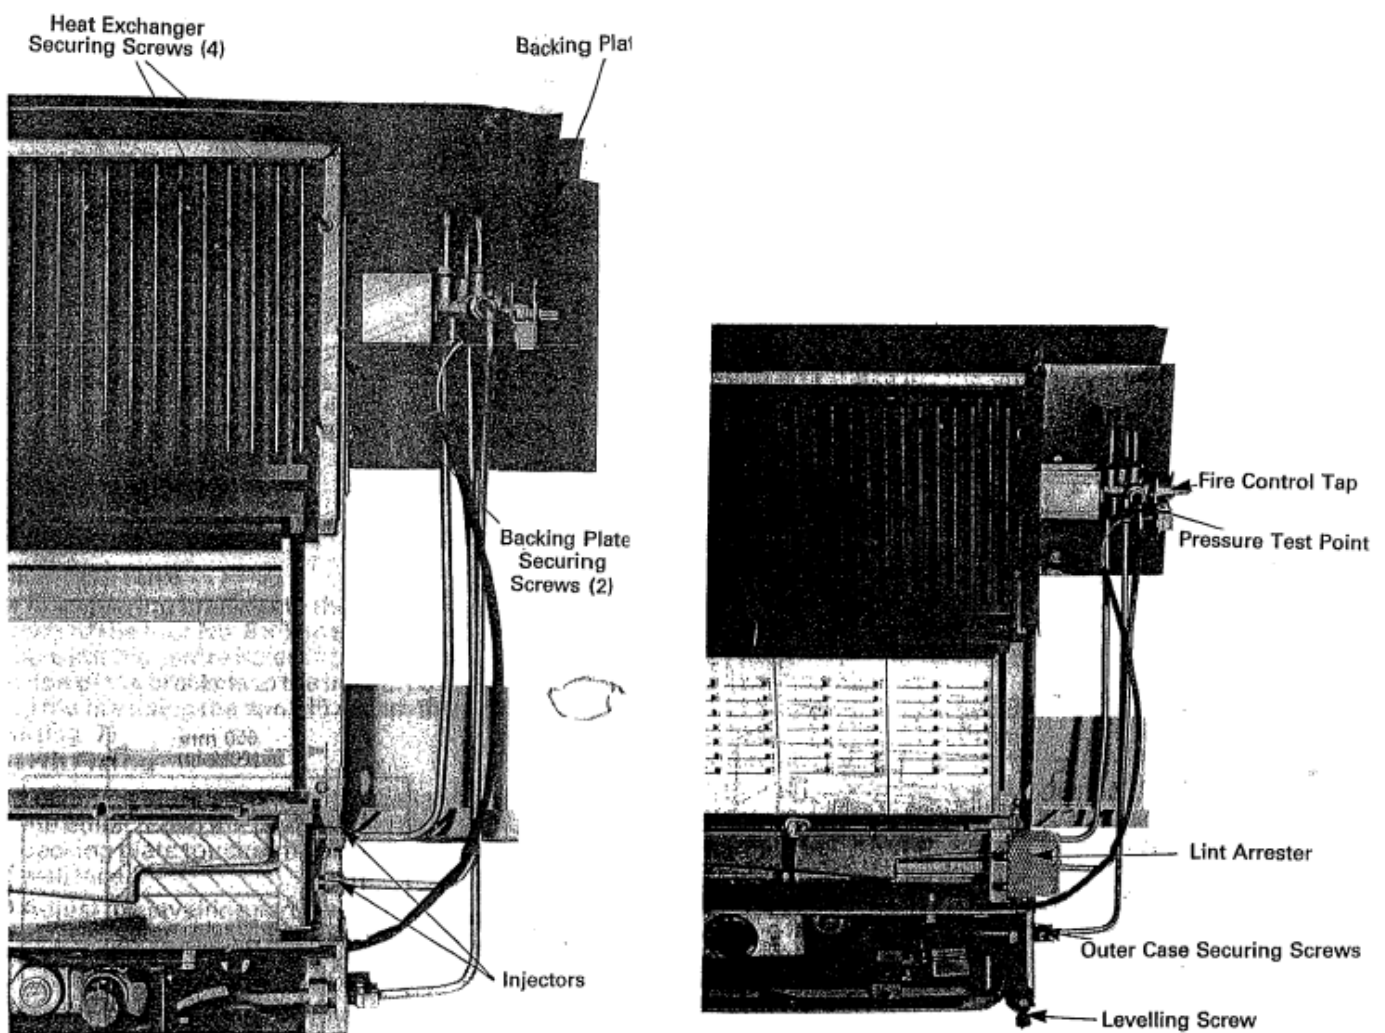
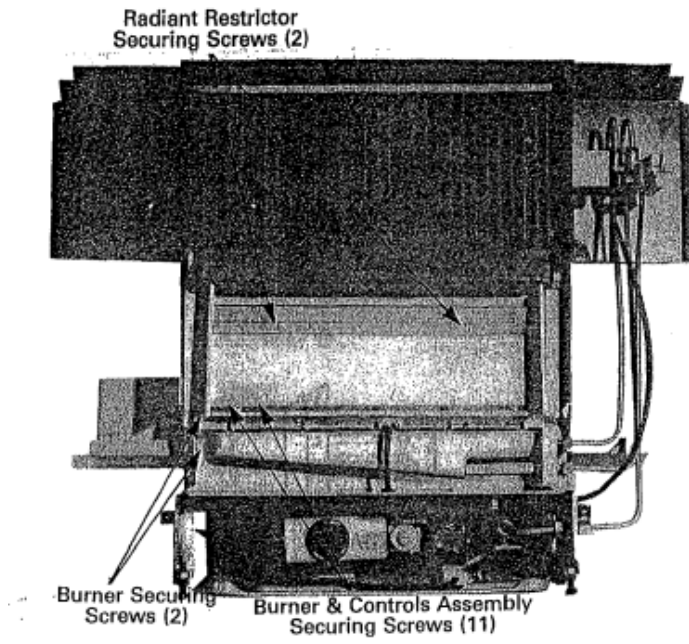

Fig. 8.
Fig. 10. The Burner
(b) Adjust the levelling screws to level the fire (Fig. 8). Mark the position of the four securing holes in the backing plate on the surround or wall face, and remove the fire.
- (c) Adjust the levelling screws to level the fire (Fig. 8). Mark the position of the four most suitable securing holes in the backing plate on the surround or wall surface, and remove the fire.
1. Remove the pressure test screw on the fire control tap and connect a pressure test gauge. (Fig. 8).
9. Remove the control knob and fit the outercase. Secure the outercase to the innercase using the securing screws provided in the accessories pack and refit the control knob. (Fig. 8)
5. Pull the lint arrester from the burner and remove all traces of dust or lint. (Fig. 8).
Pull the lint arrester away from the burner (Fig. 8). Pull back the glass fibre sleeve and remove the spark electrode lead from the spark electrode. Undo the compression nuts from the injectors and the two screws securing the burner. (Fig. 10).
- i) Remove the 11 screws securing the burner and controls assembly to the heat exchanger and remove the assembly from the inner case. (Fig. 10).
- iii) Remove the two screws securing the radiant restrictor to its mounting plate. (Fig. 10).
- iv) Remove the four screws securing the mounting plate to the heat exchanger assembly. (Fig. 10).